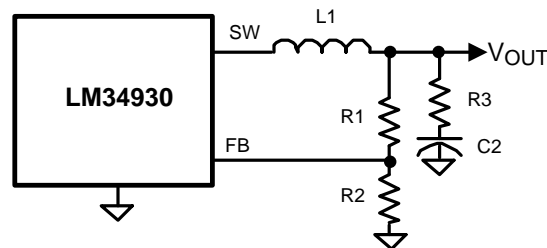

**Figure 21. Minimum Output Ripple Using Ripple Injection**
**a) Minimum ripple configuration:** If the application requires a lower value of ripple at  $V_{OUT}$  (<25 mVp-p), the circuit of Figure 21 can be used. R3 is removed, and the resulting output ripple voltage is determined by the inductor's ripple current and the characteristics of C2 (value and ESR). RA and CA are chosen to generate a sawtooth waveform at their junction, and that voltage is AC-coupled to the FB pin via CB. To determine the values for RA, CA and CB, use the following procedure: